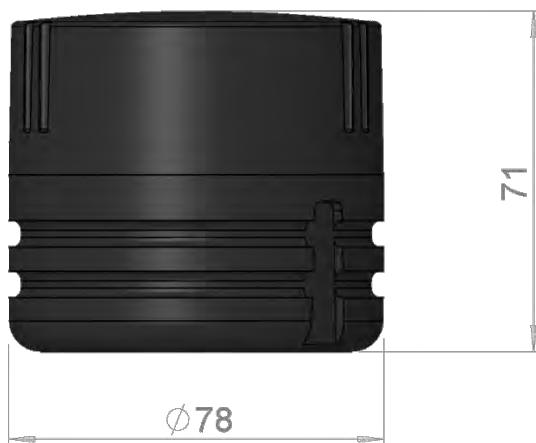

Figure 35: Dimensions SENSIT Flush mount (mm).
The SENSIT (IR) Flush Mount is designed for full mounting into the floor of a parking space. As the unit is fully flush with the road surface the unit is snow plough resistant. The SENSIT Flush Mount is only featured with magnetic detection and the SENSIT IR Flush Mount is featured with dual technology. See Figure 35 for the dimensions of the unit in mm. The top of the SENSIT (IR) Flush Mount is laser engraved with the node ID number.